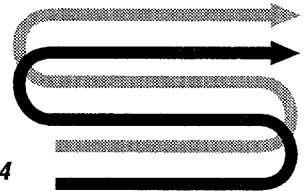

Figure 4-14
- When preparing a seedbed, go over the same path twice in the first row, then overlap one-half the tiller width on the rest of the passes (Figure 4-14). When finished in one direction, make a second pass at a right angle as shown in Figure 4-15. Overlap each pass for best results (in very hard ground it may take three or four passes to thoroughly pulverize the soil).